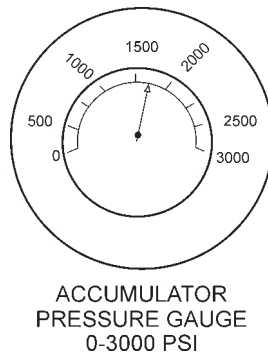

Figure 29. Accumulator Pressure Gauge
12. The **Accumulator Pressure Gauge** (Figure 29) should read approximately 1750 pounds per square inch (psi).